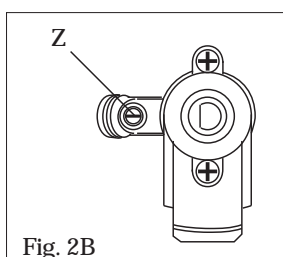

Fig. 2B
**Attention:** on taps with a security valve, the minimum adjusting screw «Z» is on the body of the gas tap (fig. 2B).